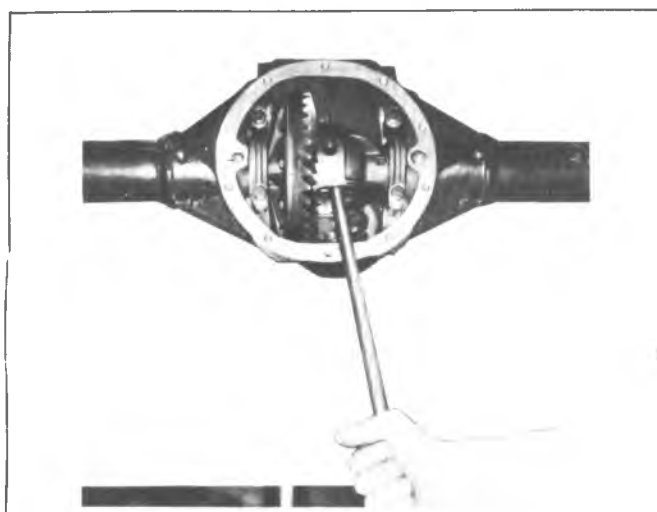

Fig. 2B-Differential Case Removal
5. Using a pry bar as shown in figure 2B, pry differential case out of carrier. Exercise caution in prying on carrier so that gasket sealing surface is not damaged. If the bearings are preloaded, the case will suddenly fall free when it is pried past a certain point; therefore, make sure case is properly supported to prevent damage. The bearing caps may be loosely installed, as shown in Figure 2B, to prevent case from falling.